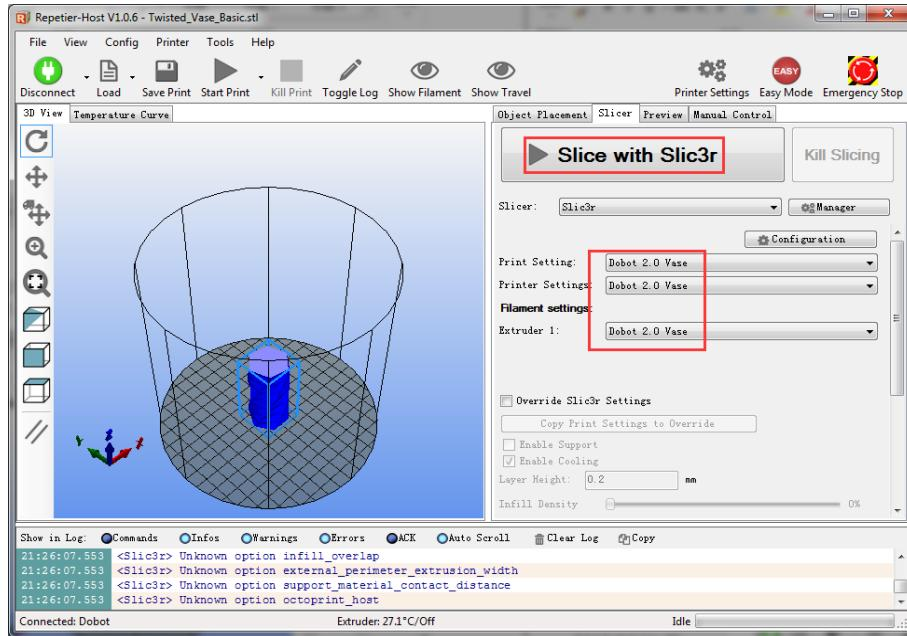

Figure 5.102 Start to slice
- Click Slic3 with Slic3r on the Slicer tab of the Repetier Host page, as shown in Figure 5.102.